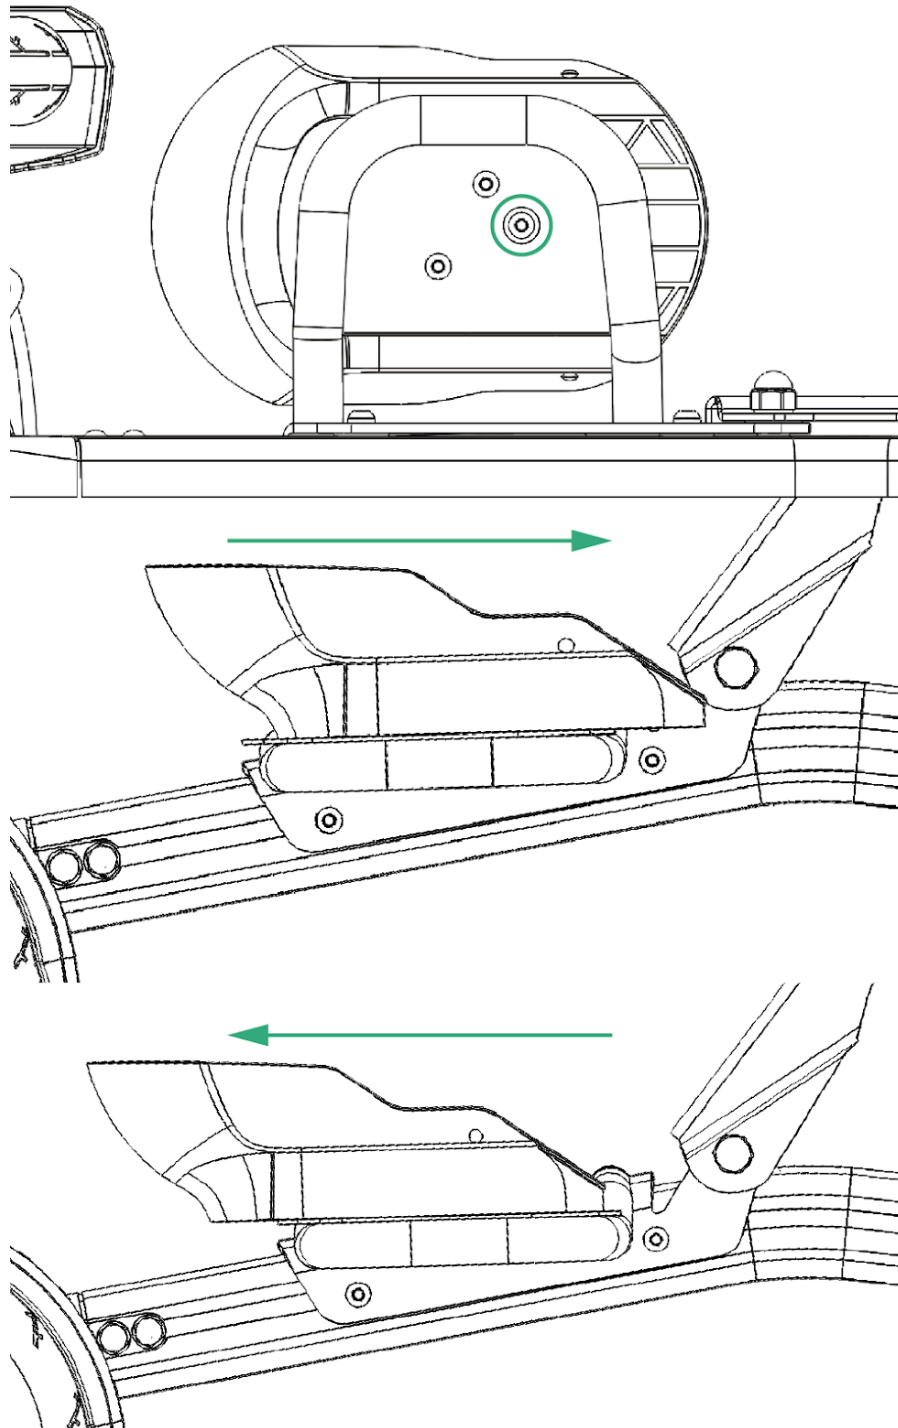

Figure 3.4.6 - Adjusting individual knee support
2. **Adjust individual knee pads** by loosening the screws marked with a green circle (hex key **4 mm**), see figure 3.4.6. The screw must not be completely screwed off, just loosened. Push the knee pad along the track on the front slider. This can be done individually for each knee pad. This is beneficial
1. **Adjust rear slider** by loosening four screws (hex key **4 mm**), see figure 3.4.6. The slider can be pushed along the track on the main frame profile. When the rear slider is adjusted to the desired position, tighten the bolts well.